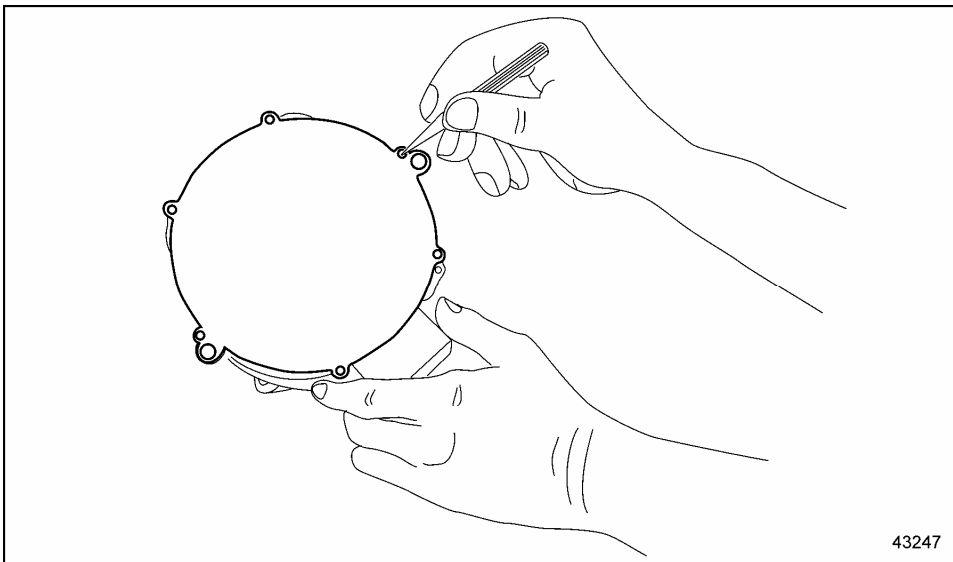

Figure 3 Align Gasket Index Holes with Regulator Body
6. If no cracks or corrosion are found, install the new gasket onto the regulator body, aligning the index holes as shown. See Figure 3.